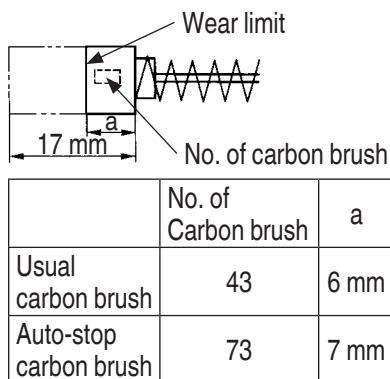

Fig. 6
4. Inspecting the carbon brushes (**Fig. 6**)